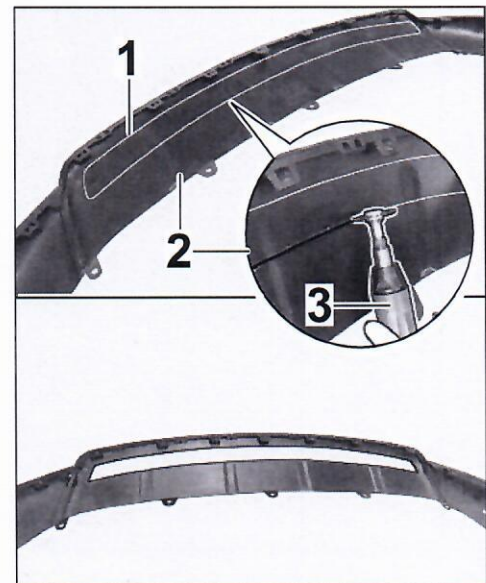

Figure 8
- 2.1.3 Make a cut-out in the front spoiler (⇒ *Figure 8*).
Highlight the embossing/markings using a pen (⇒ *Figure 8 -top-*).
Cut out the cut-out in the front spoiler using a saw or vibrating knife (⇒ *Figure 8 -3-*).